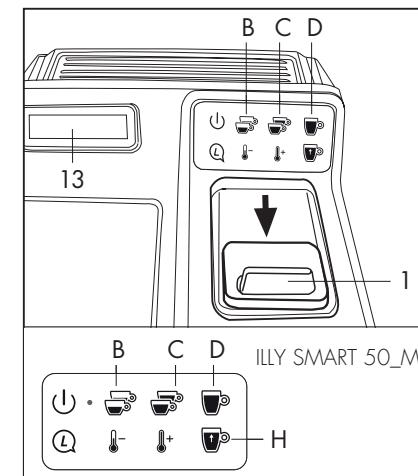

Fig. 14
- Close the door (1).
- Press one of the buttons (B) (C) (D) (H only for model Code I0003287) to start the type of preparation chosen and hold down the button until the desired dose is obtained. (**Fig.14**)
- The LCD display (13) shows the text "learning dosing".